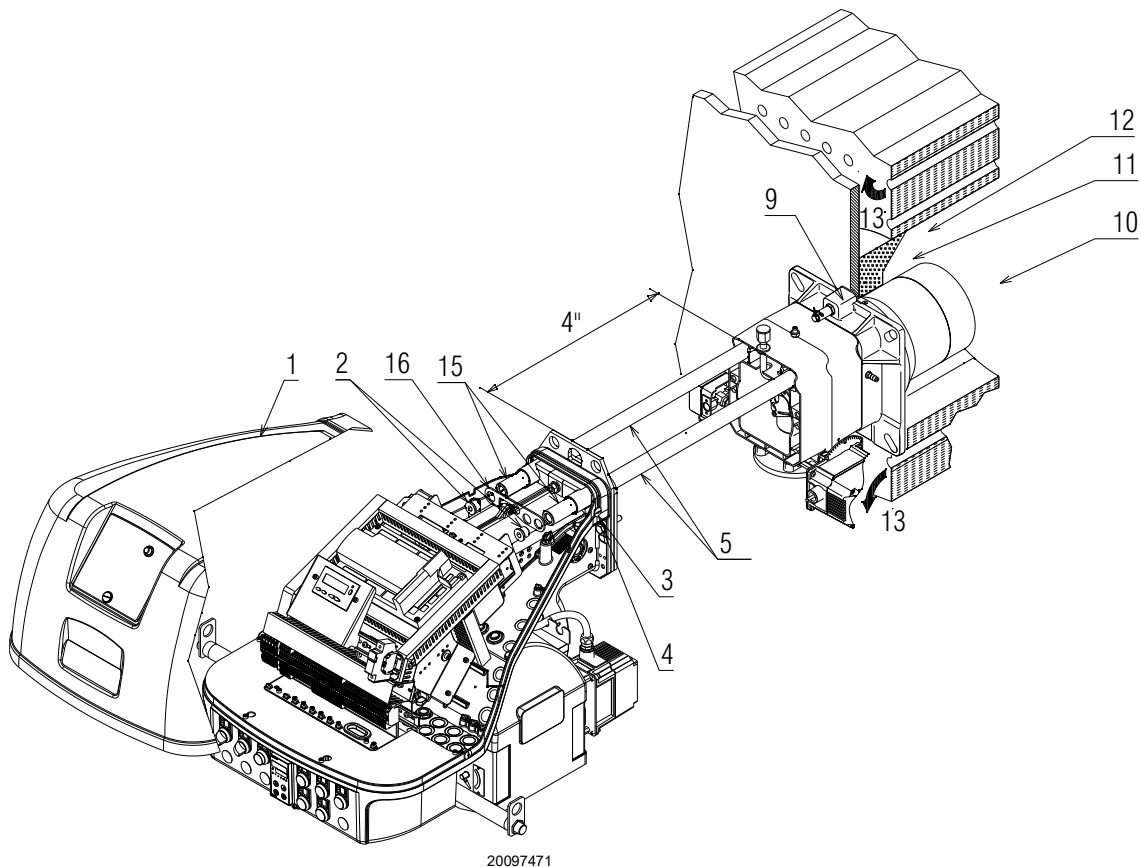

Fig. 11
For boilers with front flue passes 13)(Fig. 11) or flame inversion chambers, a protection in refractory material 11) must be inserted between the boiler refractory 12) and the blast tube 10). This protection must not compromise the extraction of the blast tube.
Secure the burner to the boiler, fixing the flange 9)(Fig. 11) to the boiler plate and interposing the insulating gasket 8).
Detach the combustion head from the burner, (Fig. 11):
- install the extension bars 15)(Fig. 11, page 17) and re-screw the screws 2) including the safety plate 16);